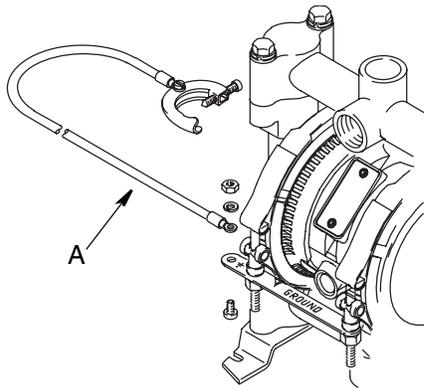

FIG. 1
1. *Pump:* Connect a ground wire (A) to the pump. Connect to the other end to a true earth ground. Order Grounding Kit (Part No. 222084). (FIG. 1)